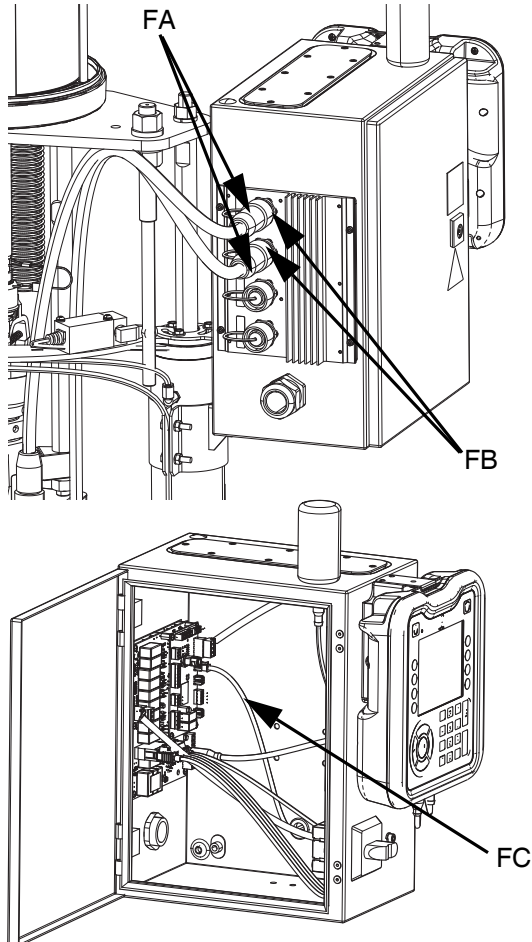

FIG. 43
2. Remove the platen and lower power cable connector (FA) from the control board receptacle (FB). See FIG. 43.
3. Disconnect the low level switch cable (FC) from the control board. See FIG. 43.